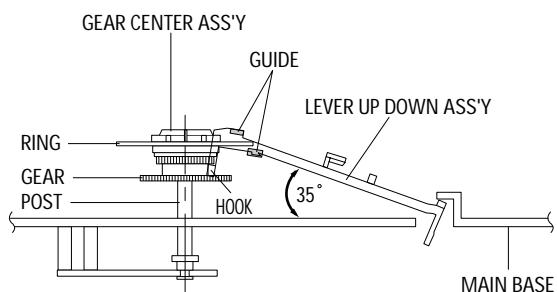

Fig. 5-30 Lever Up Down Ass'y Removal
- 1) Insert the Lever Up Down Ass'y ① in the rectangular holes on Main Base as shown in Fig 5-30.
- 2) Lift the Lever Up Down Ass'y ① about 35°. (Refer to Fig 5-30)
- 3) Insert Ring of the Gear Center Ass'y ② in the Guide of the Lever Up Down Ass'y ①.
- 4) Insert the Gear Center Ass'y ② in the post on Main Base.
- 5) Push down the Lever Up Down Ass'y ① for locking of the Hook.